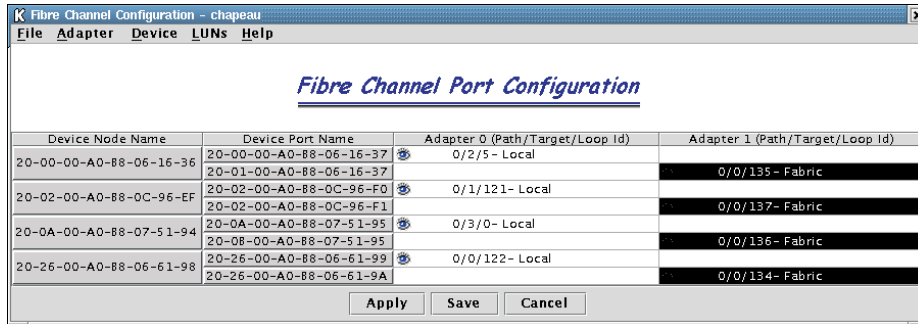

Figure 53. Fibre Channel Port Configuration window
5. Select **CONFIGURE**. The Fibre Channel Port Configuration window opens (see Figure 53).